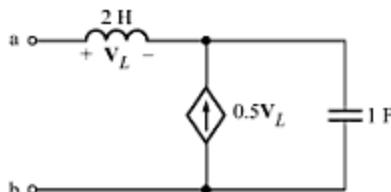

Fig. C-62
- C-93. Find the input admittance  $Y_{ab}$  of the network shown in Fig. C-62 and draw it as a parallel combination of a resistance  $R$  and an inductance  $L$ , giving values for  $R$  and  $L$  if  $\omega = 1$  rad/s.